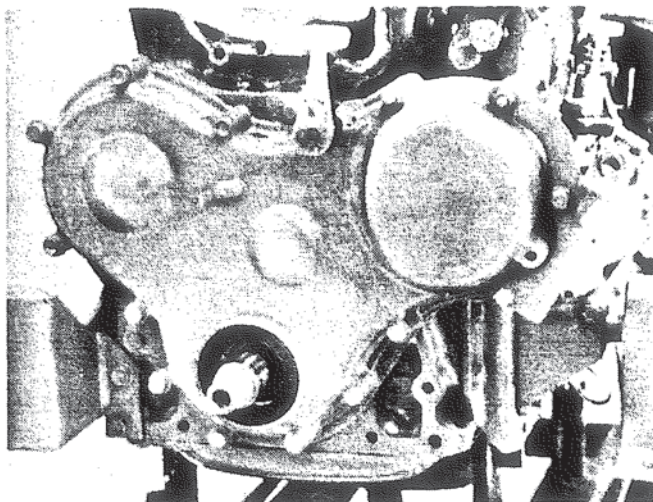

Figure 68. Installing Front Cover.
C. Install front cover using Timing Gear Cover Aligning tool MH061074 to align front seal with crankshaft. Figure 68.